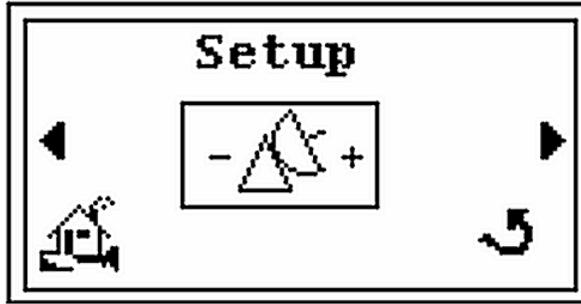

Figure 2-40 Setup Screen
3. Press the  and the *Setup* screen appears (Figure 2-40).